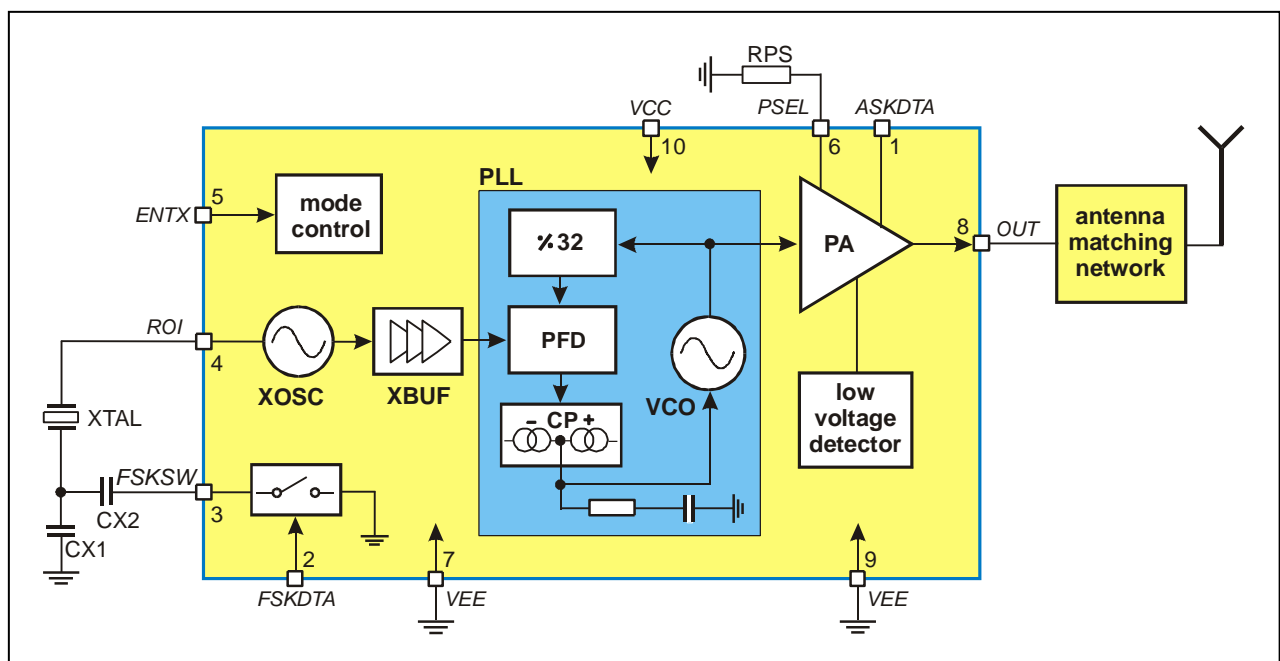

Fig. 1: Block diagram with external components
As depicted in Fig.1, the TH72035 transmitter consists of a fully integrated voltage-controlled oscillator (VCO), a divide-by-32 divider (div32), a phase-frequency detector (PFD) and a charge pump (CP). An internal loop filter determines the dynamic behavior of the PLL and suppresses reference spurious signals. A Colpitts crystal oscillator (XOSC) is used as the reference oscillator of a phase-locked loop (PLL) synthesizer. The VCO's output signal feeds the power amplifier (PA). The RF signal power  $P_{out}$  can be adjusted in four steps from  $P_{out} = -12$  dBm to +9.5 dBm, either by changing the value of resistor RPS or by varying the voltage  $V_{PS}$  at pin PSEL. The open-collector output (OUT) can be used either to directly drive a loop antenna or to be matched to a 50Ohm load. Bandgap biasing ensures stable operation of the IC at a power supply range of 1.95 V to 5.5 V.